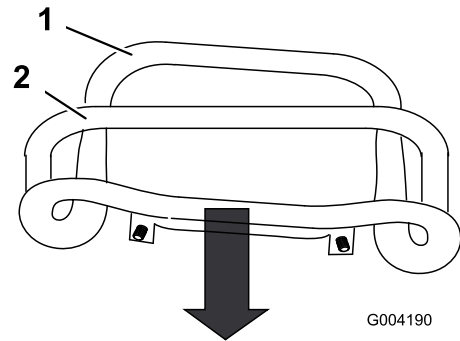

Figure 69
3. Pull straight back on the traction control so the front of the control contacts the reference bar (Figure 69).